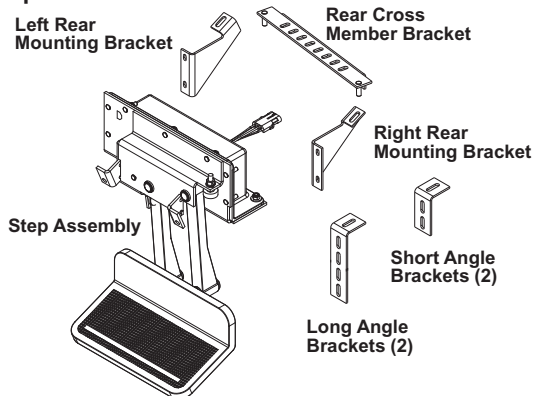

Figure 1
**Step 1)** Attach the rear brackets to the step as shown in **Figure 1**, using a washer (E), and nut (I) on each stud. Tighten each nut.